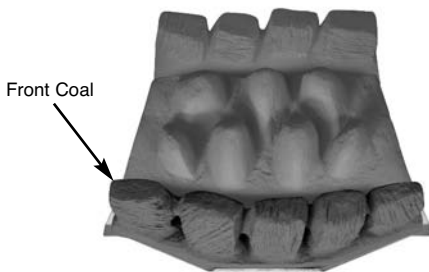

Fig. 87
3. Position the front coal on the front coal retainer, making sure that the back edge is pushed up against the front of the burner strip (Fig. 87).